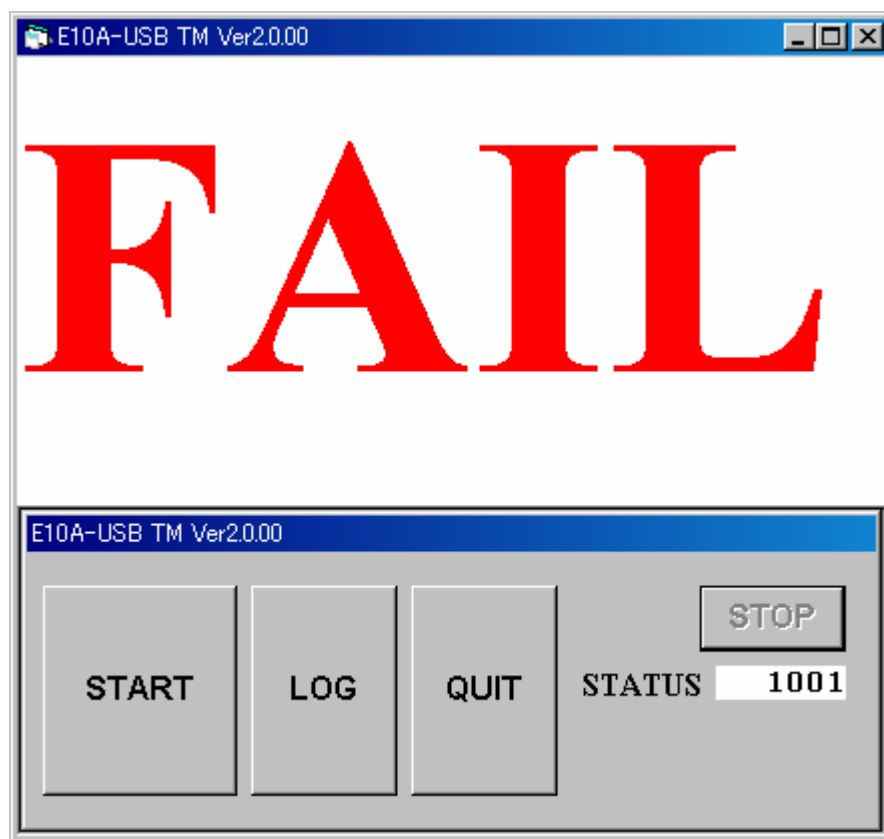

Figure 13 Status Number 1001 (Example)
- (4) If the message “FLASH MEMORY TEST is failed” is displayed and the error status is 1001 as shown in figures 13 and 14, the E10A-USB emulator test program or the E10A-USB emulator firmware may be an old version. Download updates for the E10A-USB emulator firmware and/or the E10A-USB emulator test program. For the method to update the E10A-USB emulator firmware, refer to section 3.10, Setting up the Emulator, in the Debugger Part of the E10A-USB Emulator User's Manual.